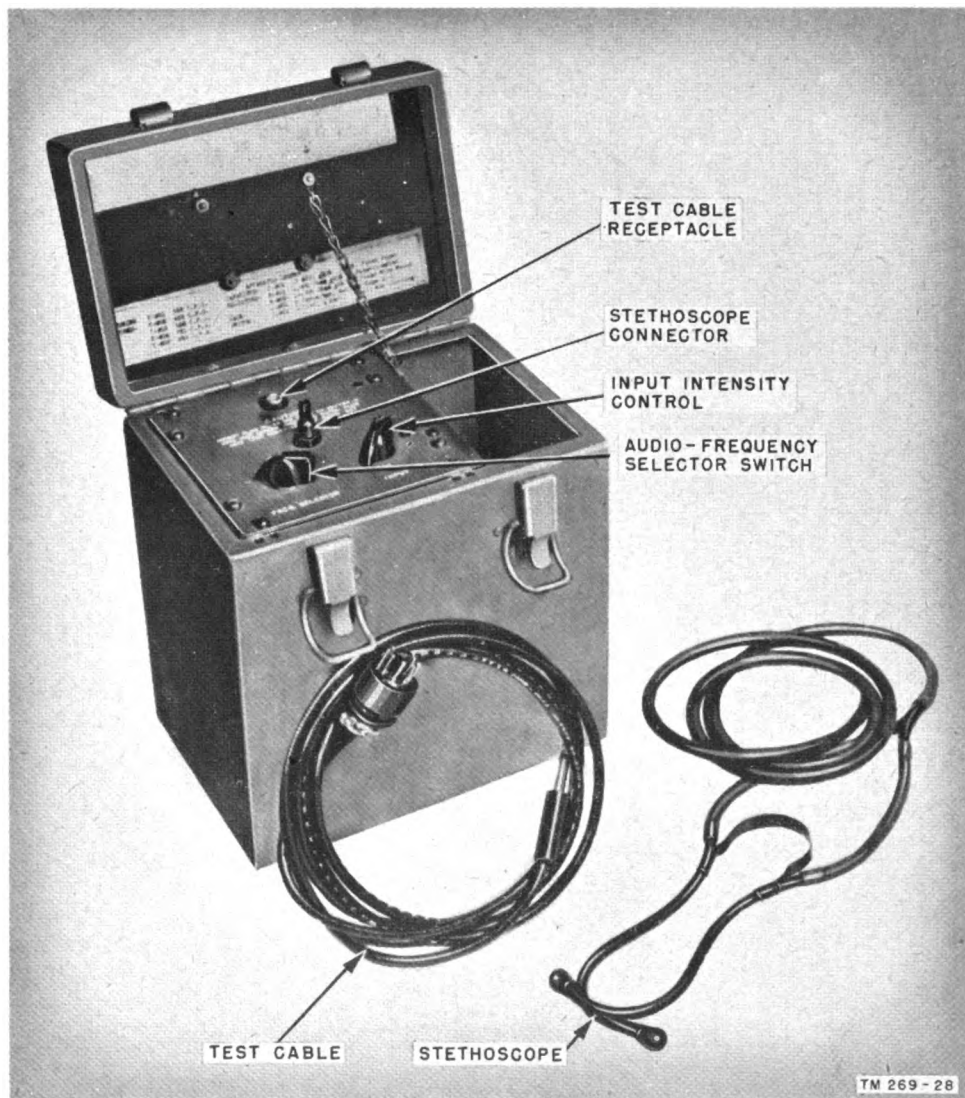
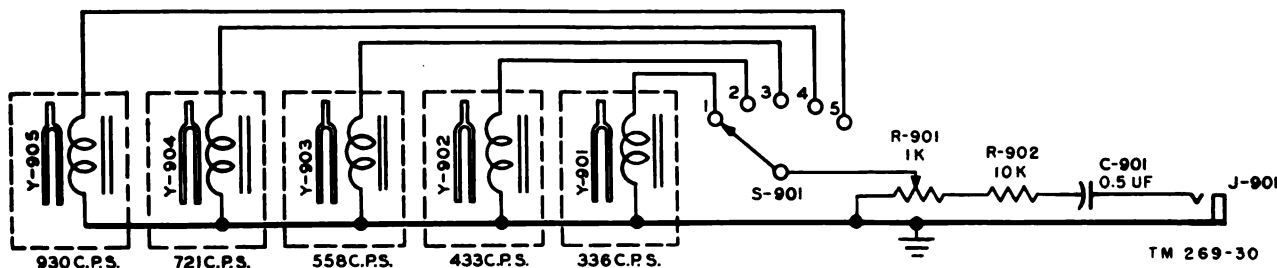

Figure 29. Test set TS-245/TRT-1.
Figure 31. A-f test set, complete schematic diagram.
- (2) *Test Set TS-245/TRT-1*. Test Set TS-245/TRT-1 (fig. 29) provides a means of tuning the very precise a-f channels in the transmitter. The test
(fig. 29) on the panel of the test set selects the tuning fork to be excited. The vibrations of the tuning forks are picked up by a brass tubing pick-up device and fed through a flexible rubber hose to stethoscope type earphones. The closer the a-f frequency of the exciting coil is to the natural frequency of the tuning fork, the louder will be the frequency vibrations heard in the stethoscope. See figure 31 for the complete schematic of the test set.